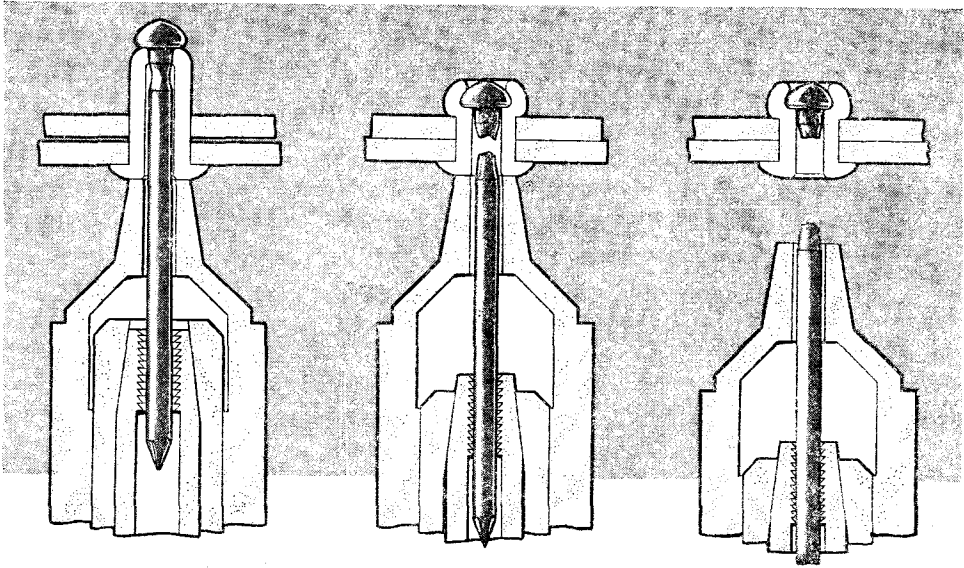

Fig. 12 Formation of a pop rivet
- c. Hold the chuck firmly against, and square to, the surface being riveted and compress the tongs. This action causes the head of the mandrel to close the rivet and then break off (Fig. 12).